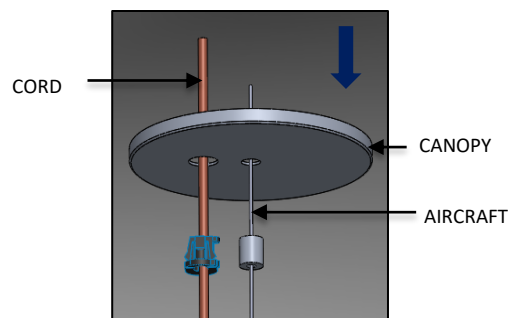

FIG. 28 – CANOPY PLATE
17. Pass the CANOPY through the AIRCRAFT CABLE and CORD in such a way that the AIRCRAFT CABLE goes through the center hole on the CANOPY and CORD passes through the second hole as shown in FIG. 28.